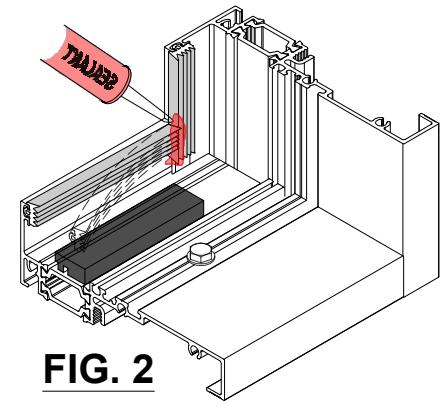

FIG. 2
- a. Place setting blocks at each corner, 6" [150mm] inches from the corner. Dab of sealant can be used to hold it in place. **DO NOT BLOCK WEEP HOLES. See FIG 2.**